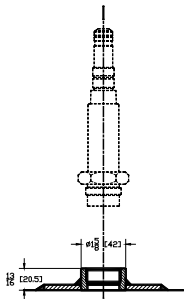

Figure 1
- Flush - used in standard applications, also suitable for sanitary applications and where process media build-up is a concern. (see Figure 1)